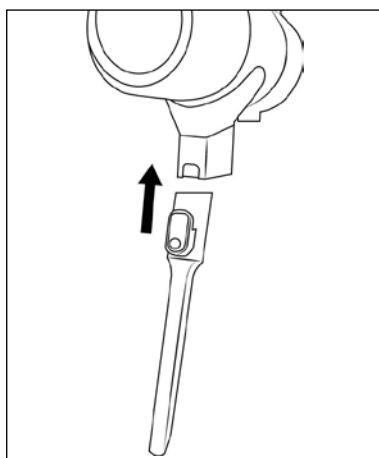

Fig. 13
- ◆ Push the accessory onto the suction pipe 23 or onto the suction opening of the appliance until it clicks into place (see Fig. 13). Make sure that the locking mechanism is in the correct position.